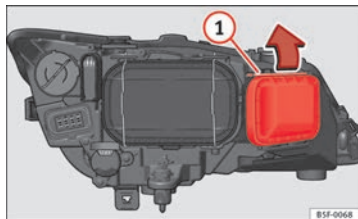

Fig. 136 Turn signal bulb
- Move the loop ⇒ Fig. 136 ① in the direction of the arrow and remove the cover.